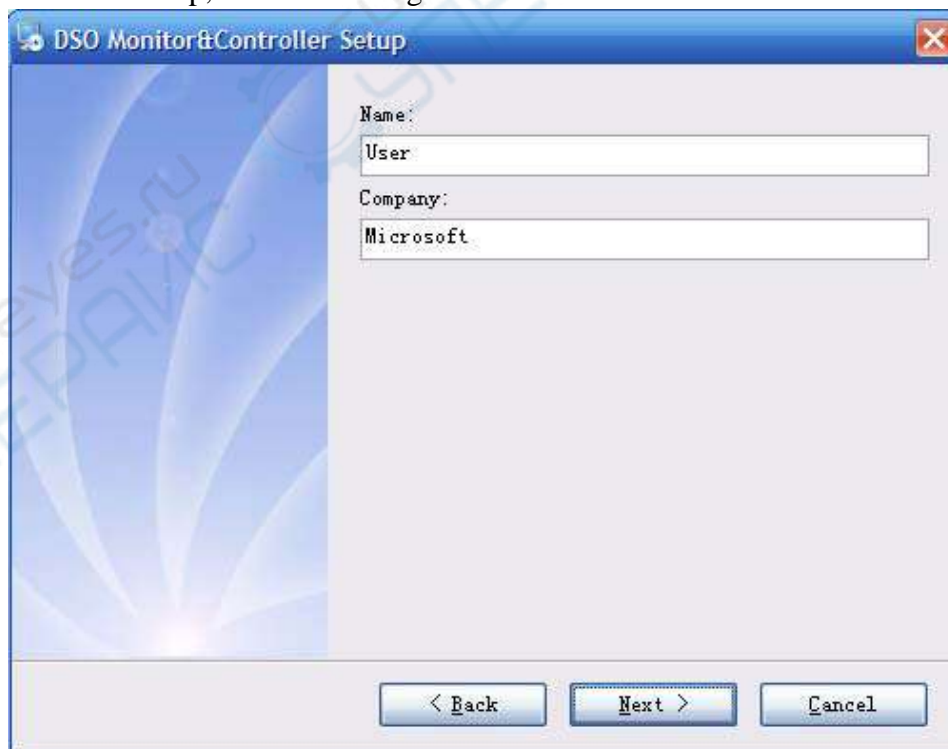
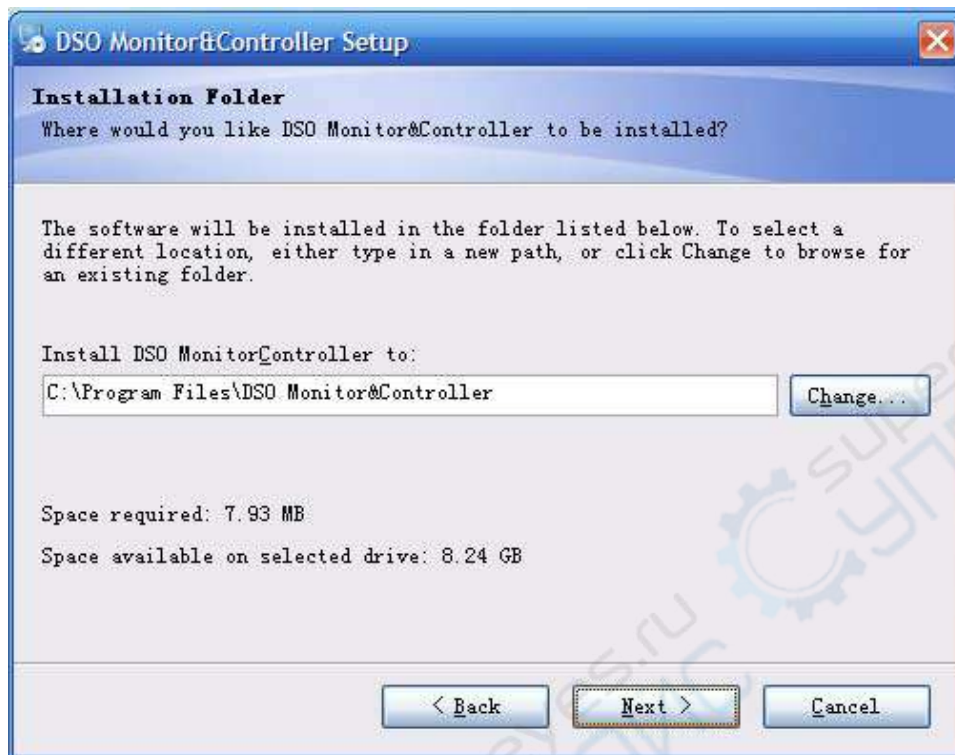
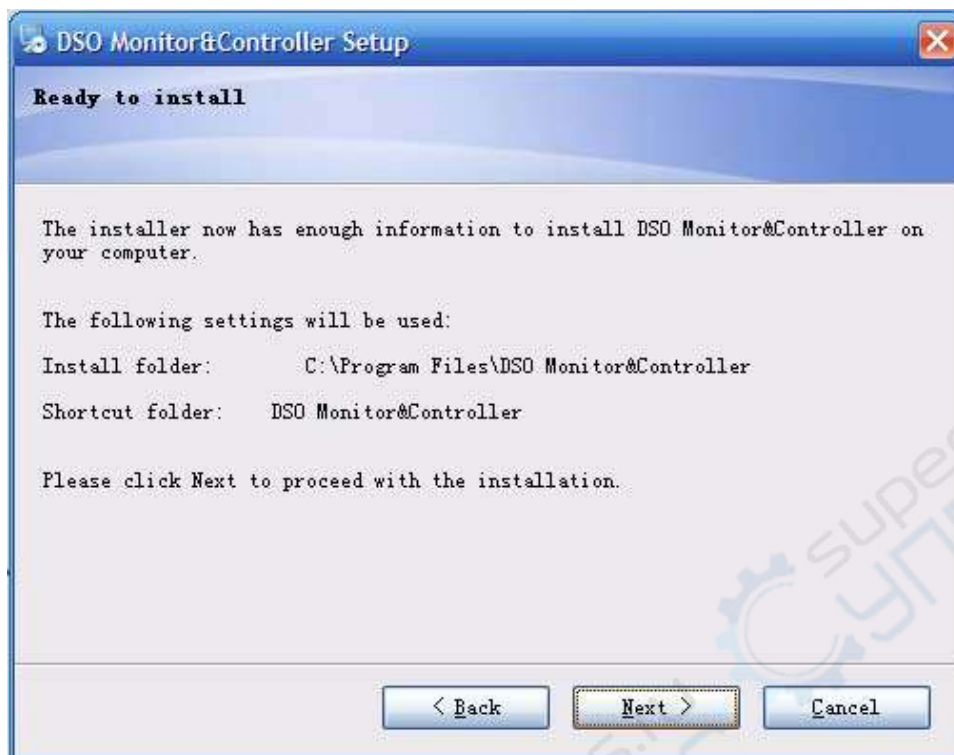
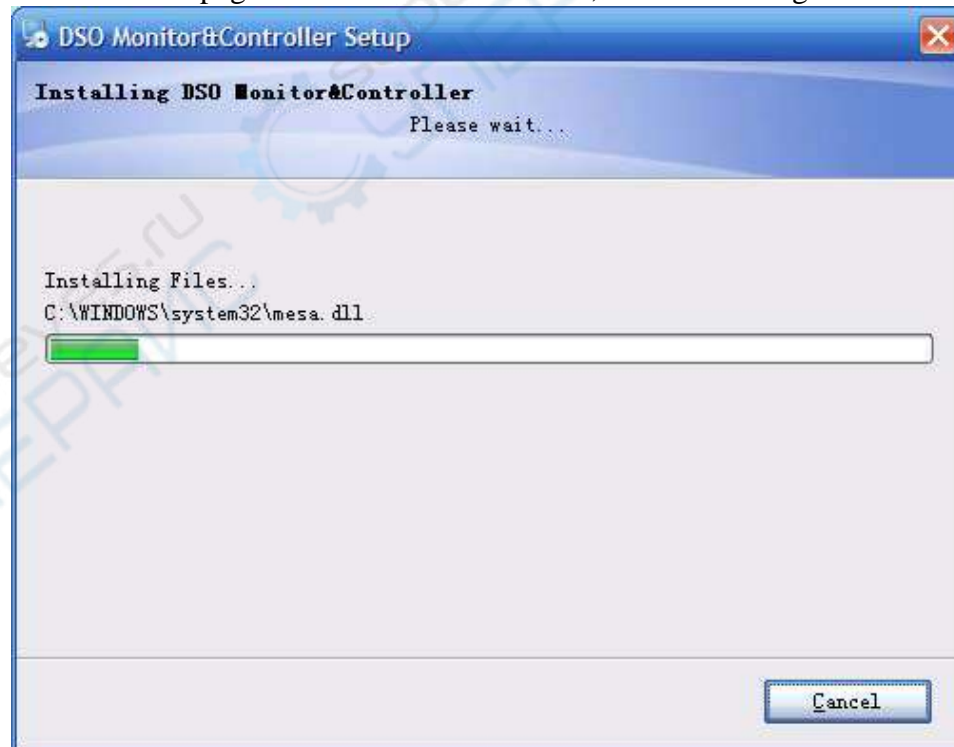

Figure 1-3
Figure 1-4
Figure 1-5
Figure 1-6
**Step three :** Read the prompt in Figure 1-2 then click the **NEXT (N)** button to enter the next step, as shown in Figure 1-3.
**Step four :** In Figure 1-3, enter your user name and company name, then click the **NEXT (N)** button to enter the next step, as shown in Figure 1-4
**Step five :** In Figure 1-4, click the **CHANGE (H).....** button to specify the installation path of the software, then click **NEXT**. You can also click **NEXT** directly to use the default path. Enter the screen shown in Figure 1-5.
**Step six :** In Figure 1-5, after checking that the message is correct, click **NEXT (N)** to enter the page for automatic installation, as shown in Figure 1-6.